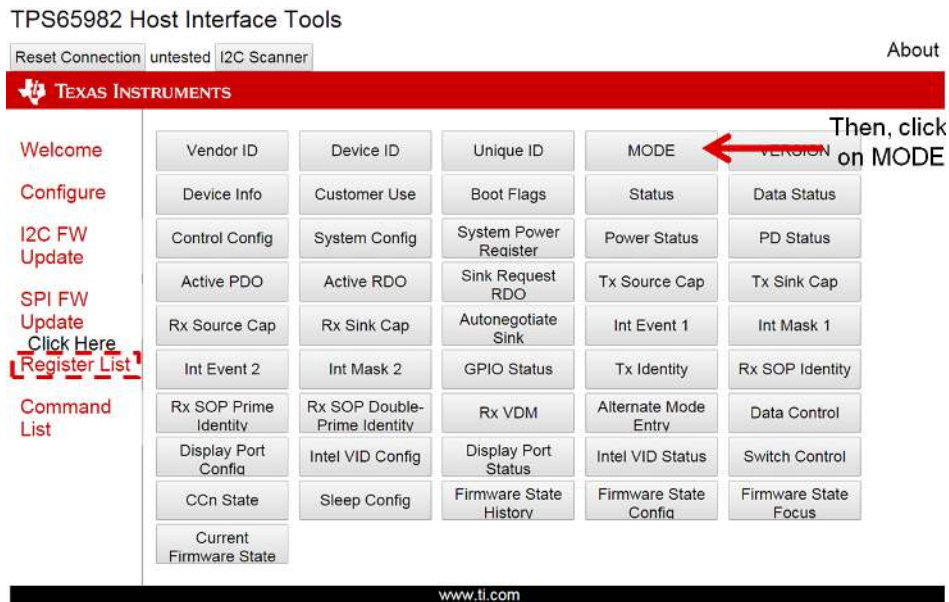

Figure 20. Register List
- Step 7. On the TPS6598x Utilities GUI, click the *Register List* link on the left side of the GUI and then click *MODE* (see .Figure 20). This register will check the I²C communication and verify that the firmware was loaded on the EVM.